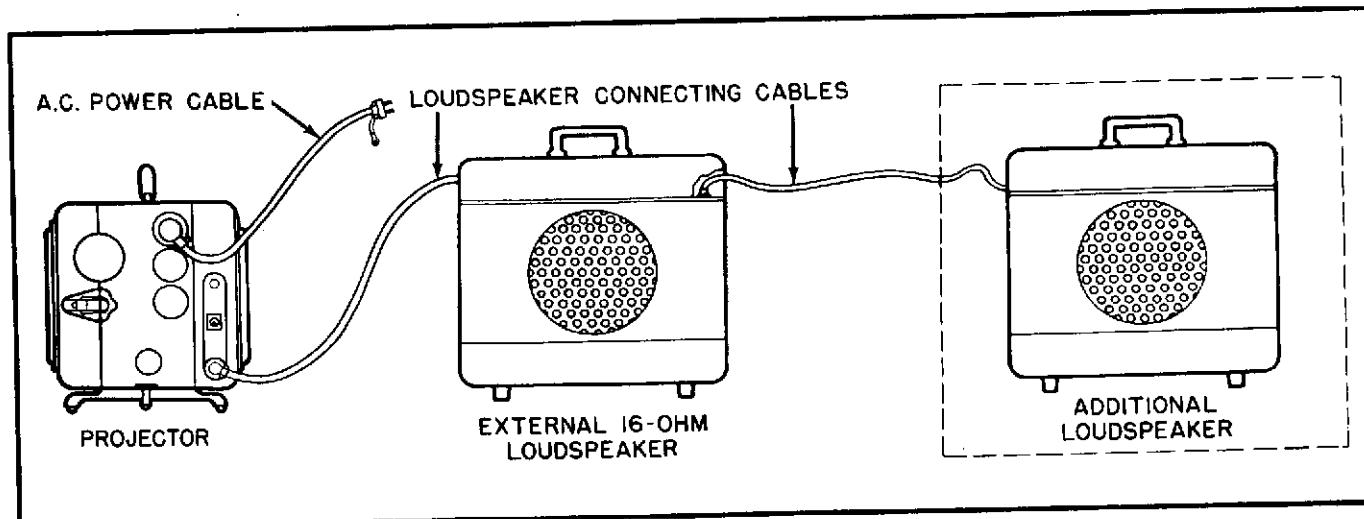

Figure 1-11. Interconnecting Diagram for External Loudspeaker Operation
1-53. Make the cabling connections between projector and external loudspeaker as shown in figure 1-11. Also, make certain that the loudspeaker selector switch is in the REMOTE SPEAKER ON position. (See figure 1-8).
- Move the loudspeaker selector switch to the correct position. If the built-in, 5-inch loudspeaker is to be used, this switch must be set in the upward position, LOCAL SPEAKER ON. If an external 16-ohm loudspeaker is to be used, insert the loudspeaker cable connector into the Cannon receptacle marked REMOTE SPEAKER, then move the loudspeaker selector switch to the position marked REMOTE SPEAKER ON. Refer to figure 1-11 for cabling connections when using external loudspeaker.